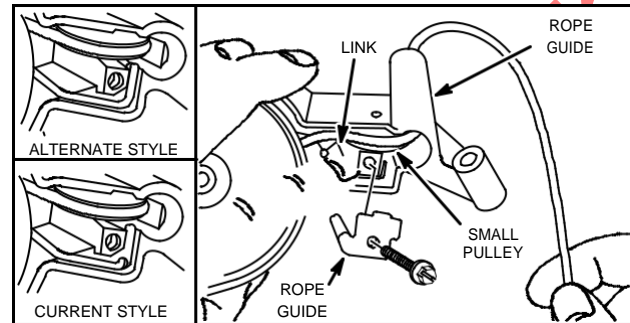

Fig. 630 – INSTALLING PULLEY ASSEMBLY
4. Install small pulley, rope pulley pin, and rope guide, Fig. 630.